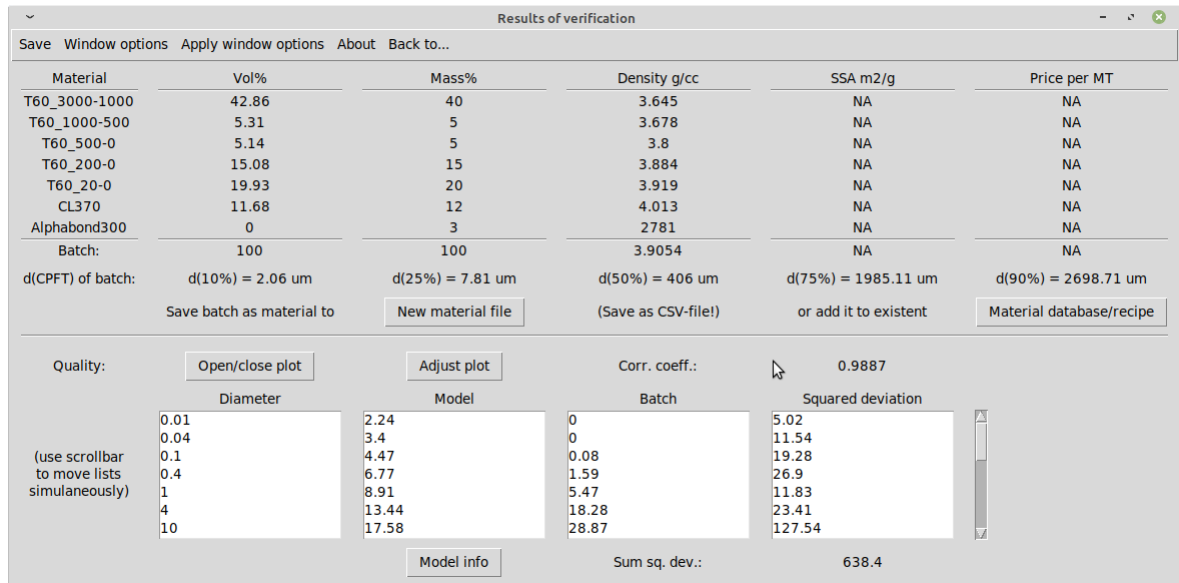
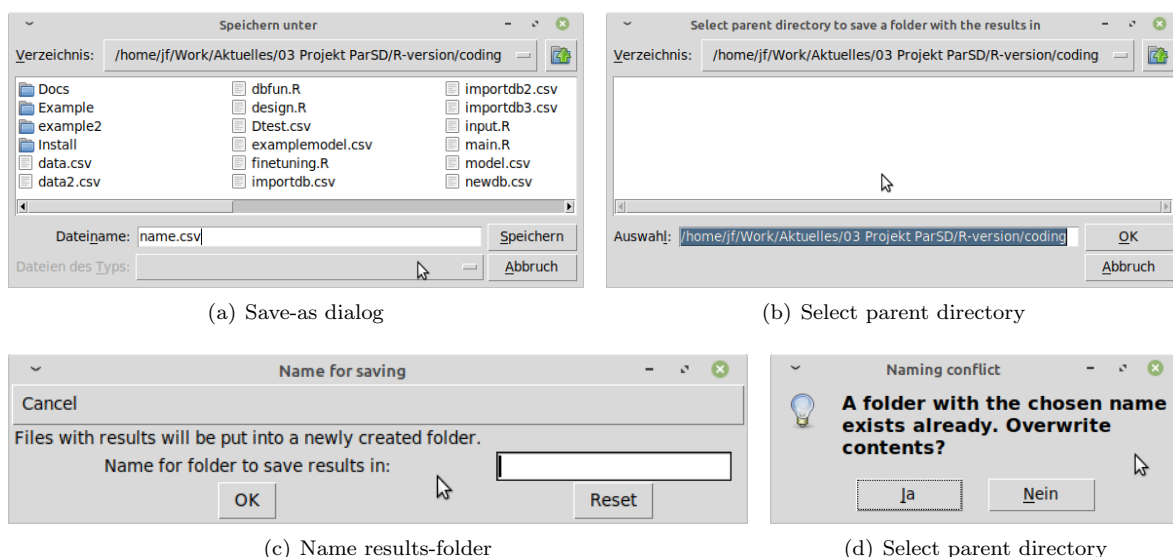
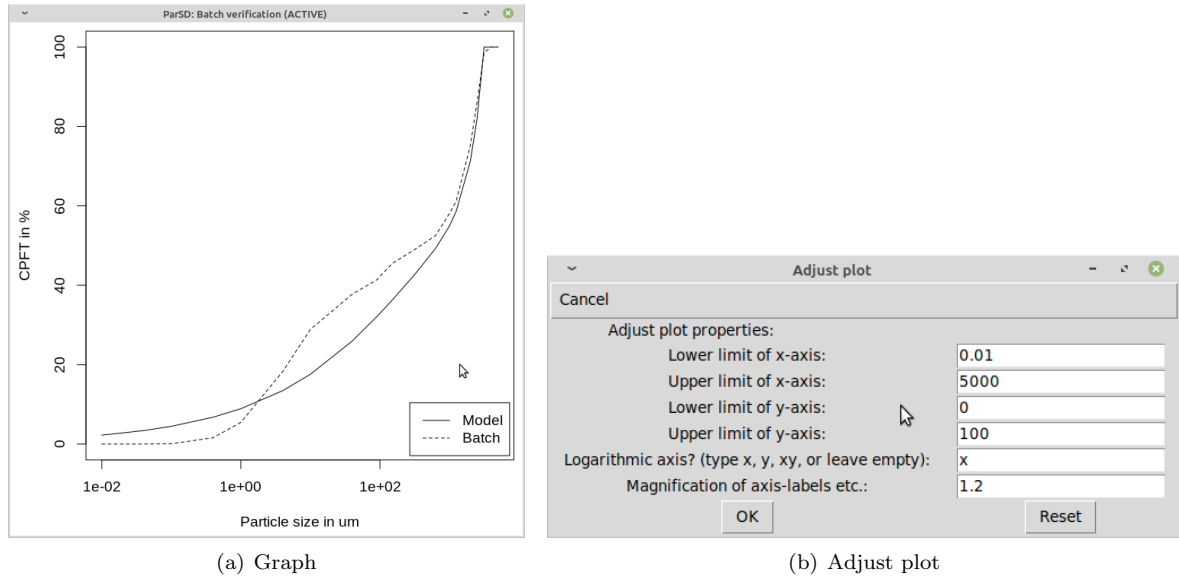

Figure 1: Results window
Figure 2: Save results
Figure 4: Plot results
The results are presented in a window (Figure 1) with an extended menu bar, followed by the results table containing the batch properties and in the lower part can be found a detailed comparison of the model and batch particle size distributions.
- recipe, which is a subset database containing the materials used for the present calculation. Has to be saved as CSV file in the Save-As window by adding the file extension to the filename as shown in Figure 2(a).
- batch, which is the table shown in the results window giving the contents of the materials. Has to be saved as CSV file in the Save-As window by adding the file extension to the filename as shown in Figure 2(a).
- model (comparison), which is the lower part of the results-window including information to the model (type and parameters). Has to be saved as CSV file in the Save-As window by adding the file extension to the filename as shown in Figure 2(a).
- graph, as adjusted and displayed by the 'Open/close plot' button. Has to be saved as PNG file in the Save-As window by adding the file extension to the filename (cf. Figure 2(a)).
- complete results (recipe, batch, model (comparison) & plot). In this case, a folder will be created into which the four files will be put. The user is asked to give the parent folder into which the new results folder should be placed (Figure 2(b)) and then to give a name for the results folder (Figure 2(c)). If a folder with this name already exists, the user is informed but can decide to overwrite the contents (Figure 2(d)).
Coming to the results table (cf. Figure 1), there the materials with their contents in vol% and wt% in the batch are listed together with information from the database if saved there. The last line shows the batch properties. For the batch, furthermore, the describing d(CPFT) values are given to summarize the properties of the batch particle size distribution. The batch can moreover be saved as a new material file (database with one material only) or it can be added to an existing recipe or database. In the first case, the user is shown the save-as dialog (Figure 2(a)) where the user decides for a path and name for the new CSV (database) file. In the second case, the user selects a database from the filesystem. In both cases, afterwards, the user is asked to give the batch-material information (Figure 3). The fields are pre-filled, but can be edited.
In the lower part of the results window (cf. Figure 1), the quality of the fit is evaluated. The user can evaluate it visually by plotting the results (the CPFT curves) and by adjusting the plot to make details visible (Figure 4). The axis ranges and the magnification of the axis-labels can be adjusted and it can be decided if there should be logarithmic axes.